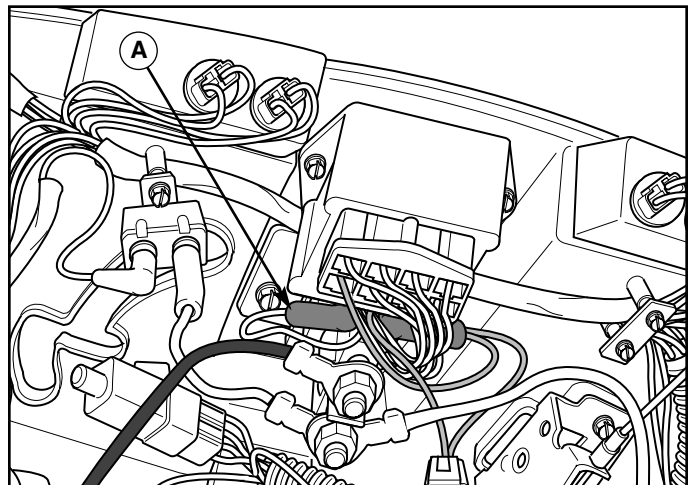

Figure 15. Solenoid Location
1. Unplug the blue / white wire (A, Figure 15) from solenoid post 1 (see Figure 15).